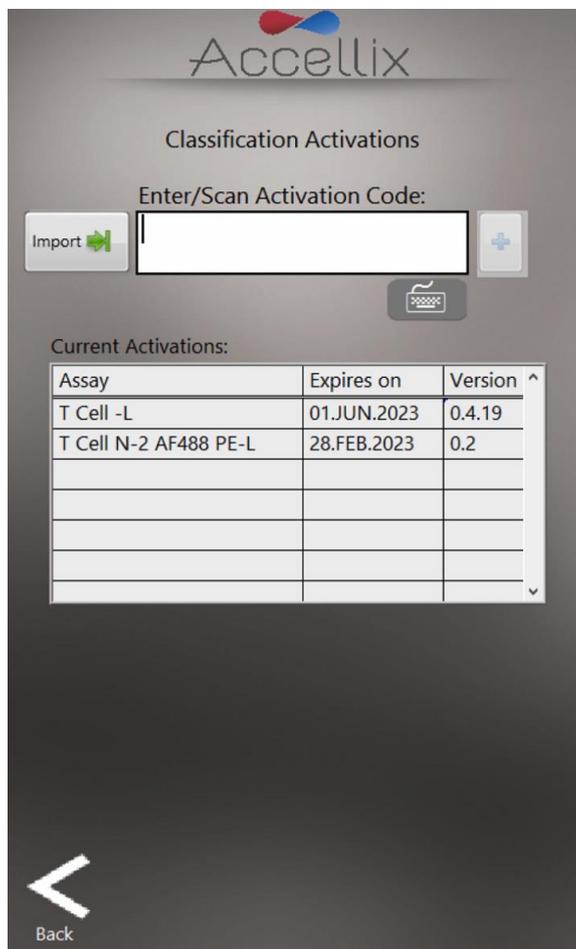

Figure 28: Auto-classification Subscriptions screen
The **Auto-Classification Subscriptions function** screen allows the user to view and add auto-classification (AC) subscriptions for any applicable assays (Figure 28). For more information, please contact sales@accellix.com.